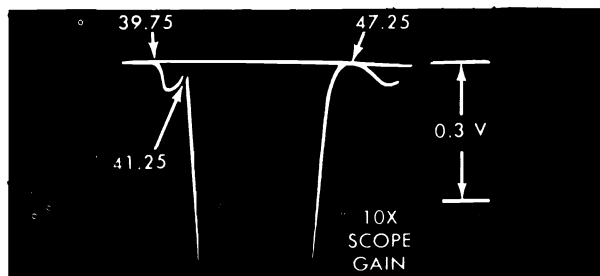
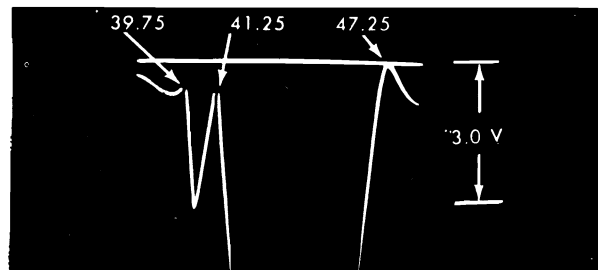
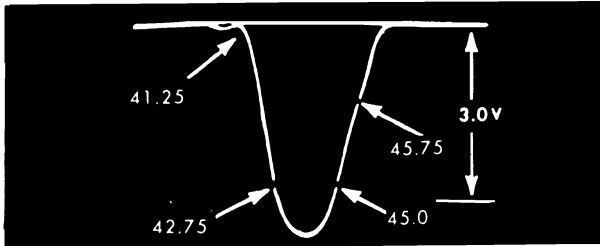

Fig. 3. Expanded View of Traps
Fig. 4. Further Expansion of Fig. 3. for Detail View of the 39.75 and 47.25 MHz Traps.
Fig. 5 Overall IF Response Curve.
5. Connect the sweep generator to terminal "A" (converter grid). Connect terminal "F" to chassis and connect a jumper between terminal "E" and chassis. Adjust the sweep to obtain a 3V. P.P. response similar to Fig. 5. Switch oscilloscope to 10X gain to "blow up" the traps (Fig 3).
6. Refer to Fig.3. and adjust the 39.75 MHz and the 41.25 MHz traps for minimum marker amplitude. Connect jumper between "E" and the junction of the 68 ohm and 1800 ohm resistors in the cathode circuit of the 1st I.F. This provides an additional "blow up" of the 47.25 MHz traps (Fig. 4). Adjust the 47.25 MHz trap for minimum marker amplitude.
7. Disconnect jumper between "E" and the 68 ohm and 1800 ohm cathode resistors. Connect this jumper between "E" and chassis. Adjust sweep generator for 3 volts peak to peak output at the second detector. Alternately, adjust the 2nd, 3rd, 1st IF and the converter plate coil until an overall response similar to Fig. 5. is obtained. It will be found that the 2nd IF affects the low side (42.75MH) and the 3rd IF, the high side of the response curve.